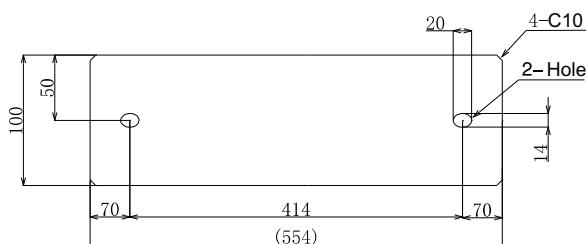

Fig. 4.6 Frame and Base Installation
(7) The whole of the base of the outdoor unit should be installed on a foundation. When using vibration-proof mat, it should also be positioned the same way. When installing the outdoor unit on a field-supplied frame, use metal plates to adjust the frame width for stable installation as shown in Fig. 4.6.